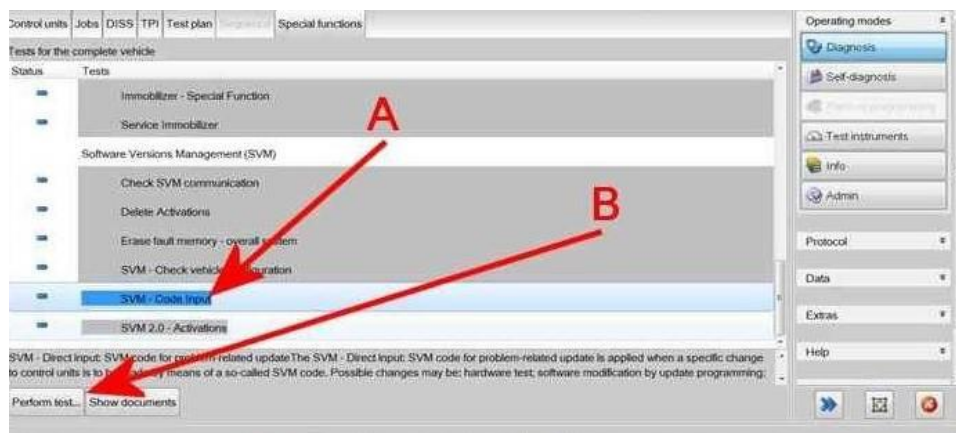

Figure 1
- Referring to Figure 1 - Within the Special functions tab select SVM - Code Input (A) then select Perform test (B)